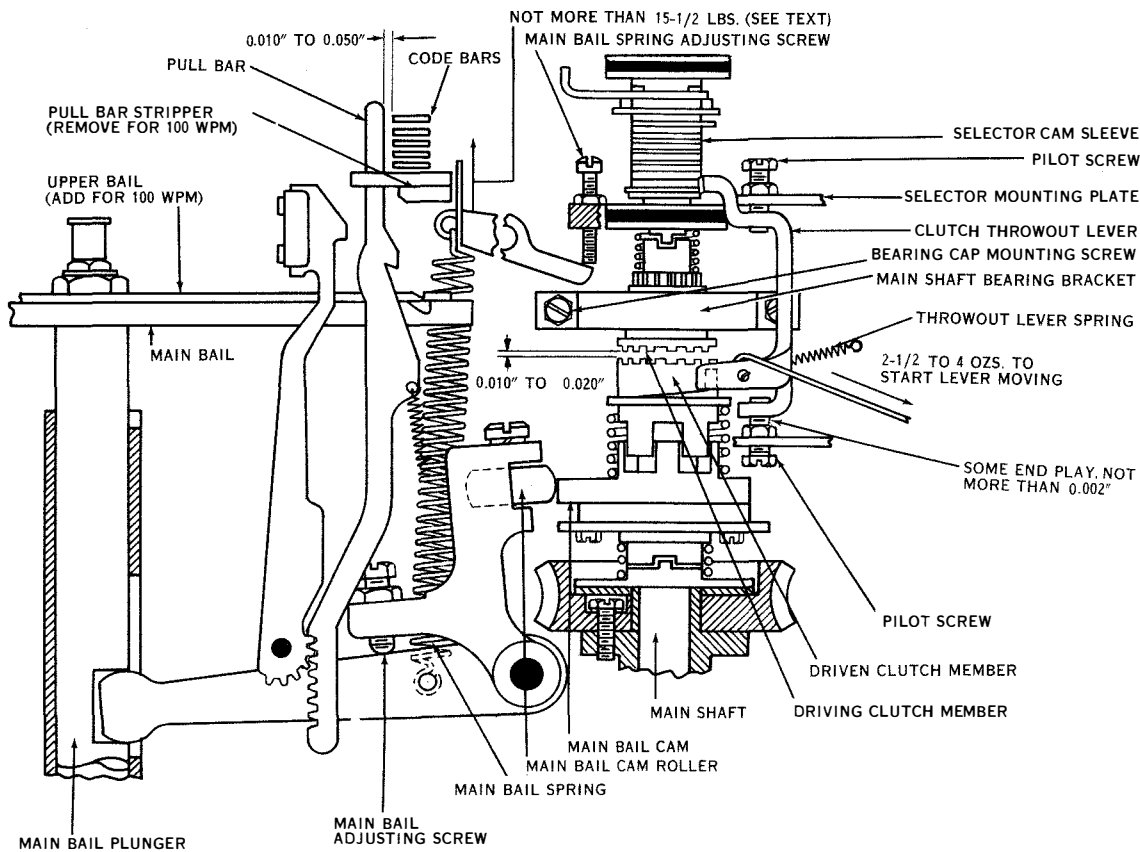

Figure 7-25. Main Shaft Clutch Throwout Lever, Clutch Spring Tension and Main Bail
(3) **MAIN SHAFT.** (See figure 7-25.)—The cams on the selector cam sleeve should line up with their associated selector levers. To check, turn the main shaft one complete revolution and note the position of the cams as they strike the selector levers. To adjust, loosen the four bearing cap mounting screws and position the main shaft. (The tape feed-out mechanism assembly must be removed on receiving reperforators.) Hold the shaft in position and tighten the bearing cap mounting screws.
(4) **MAIN SHAFT CLUTCH THROWOUT LEVER.** (See figure 7-25.)—With the motor operating, open and close the signal line and then stop the motor. There should be 0.010- to 0.020-inch clearance between the teeth of the two clutch members. The clutch throwout lever should be free on its pilot screws with some
(5) **MAIN SHAFT CLUTCH THROWOUT LEVER SPRING TENSION.** (See figure 7-25.)—When the clutch throwout lever is off the camming surface and resting on the driven clutch member, it should require a tension of 2½ to 4 ounces to start the lever moving. To check, hook an eight-ounce scale over the clutch throwout lever at the spring hole and pull at right angle to the lever.